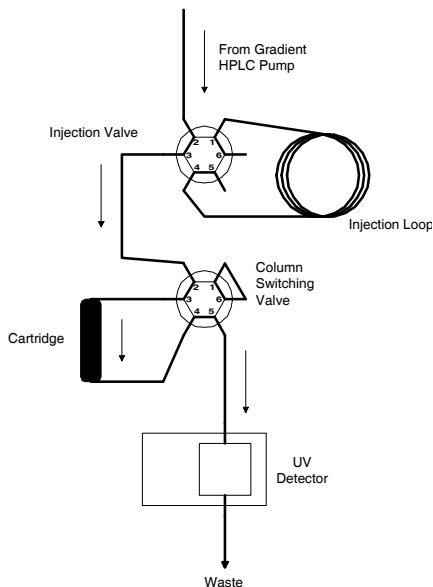

Fig. 4 Injection method plumbing
- Other systems—Plumb the instrument to form a gradient and to make repeated 20 µl injections (50 µl sample loop or larger) from the ligand solution. Refer to Figure 4 on page 5.